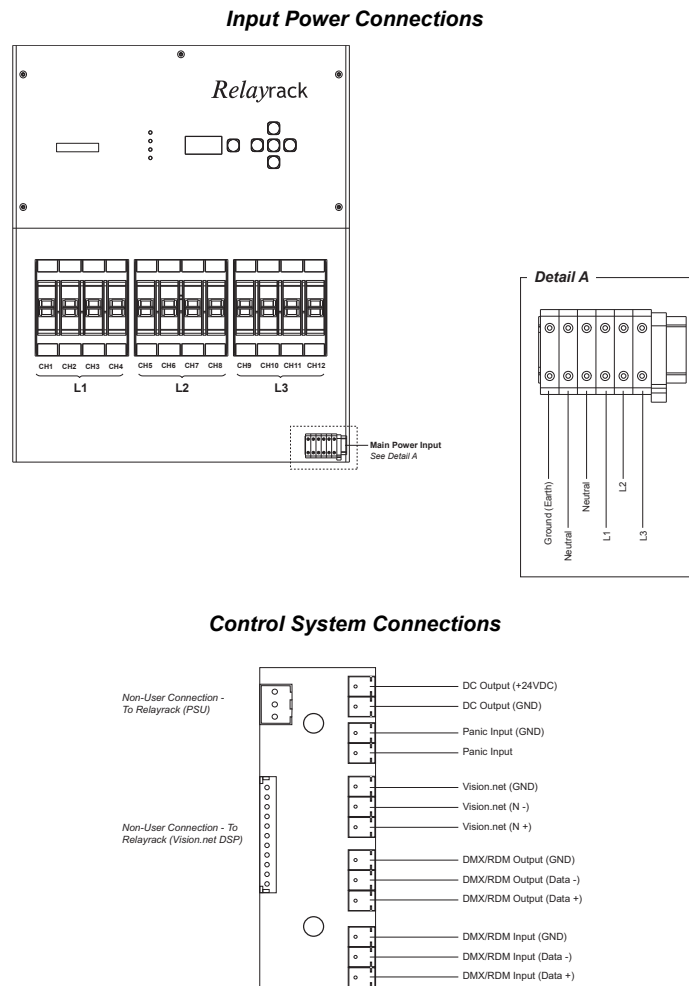

Figure 6: Relayrack Panel Wiring Connections (Detail)
Step 4. Make all wiring connections as shown in **Figure 6**.